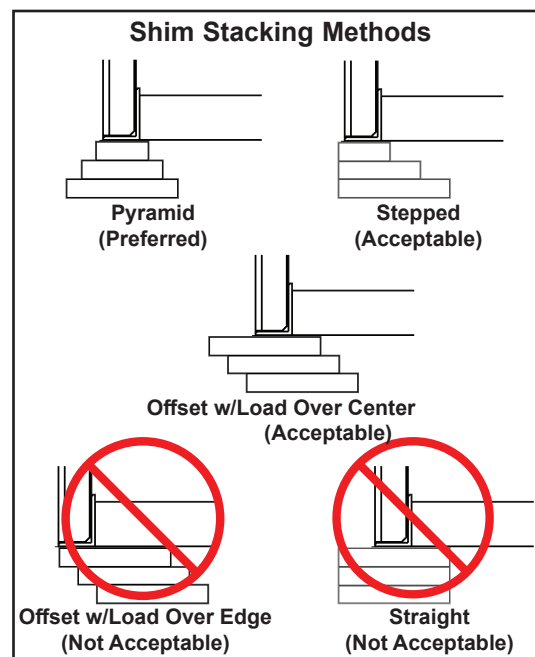

Figure 12
2. Using the results obtained in step 1, create the individual shim stacks on the pit floor at location (**B**). Build each shim stack (**M**) with the top shim having a minimum size of 4" x 4" (101.6 mm x 101.6 mm) and each successive lower shim being larger so the shims can be welded together using a fillet weld. If using offset method, make sure load is over center of shim stack, NOT over the edge. DO NOT use straight method. See Figure 12.